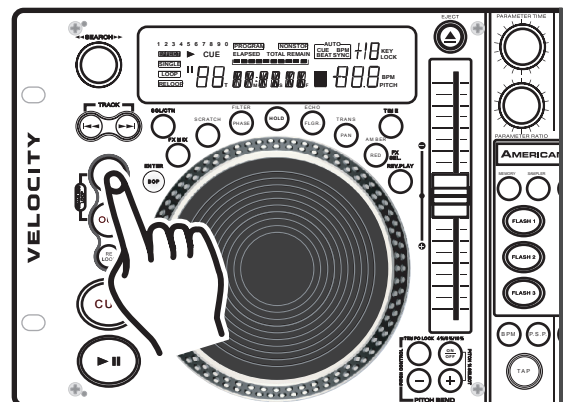

Figure 15
A cue point is the exact point playback will begin when the *PLAY/PAUSE BUTTON* (22) is pressed. You may set your cue points anywhere on a disc or in a track. You may set up to four independent cue points per disk. Three cue points are stored in the *FLASH BUTTONS 1-3* (8) and one is shared by the *IN BUTTON* (32), *BOP BUTTON* (33) and the *CUE BUTTON* (21). There are two (2) ways to set and create a CUE point as detailed in figures 15 and 16
- 1) You may press the *IN BUTTON* (32) on the fly (while the disc is playing). This will set a CUE Point without music interruption. Pressing the *CUE BUTTON* (21) will now return you to the same point that you pressed the *CUE BUTTON* (32). You may now store this CUE Point in any of the *FLASH BUTTONS 1-3* (8). Pressing the *CUE BUTTON* (21), *BOP BUTTON* (33) or the *IN BUTTON* (32) will now return you to this exact point.